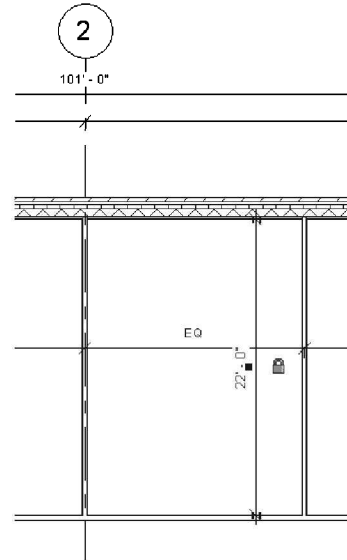

FIGURE 2-1.19
52. Add a vertical “clear” dimension to indicate the depth of the rooms. Set *Prefer to Wall Faces* for both ends of the dimension line. See Figure 2-1.19.
53. Click the **padlock** symbol (🔒) to tell Revit this dimension should not change (Figure 2-1.19).